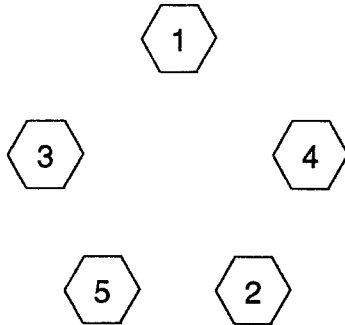

Figure D-3. Housing Torque Sequence
10. Generously oil the front bearing race and install the front bearing housing with gasket. Torque the bolts to 180 inch pounds. Torque the bolts as shown in Figure D-3.